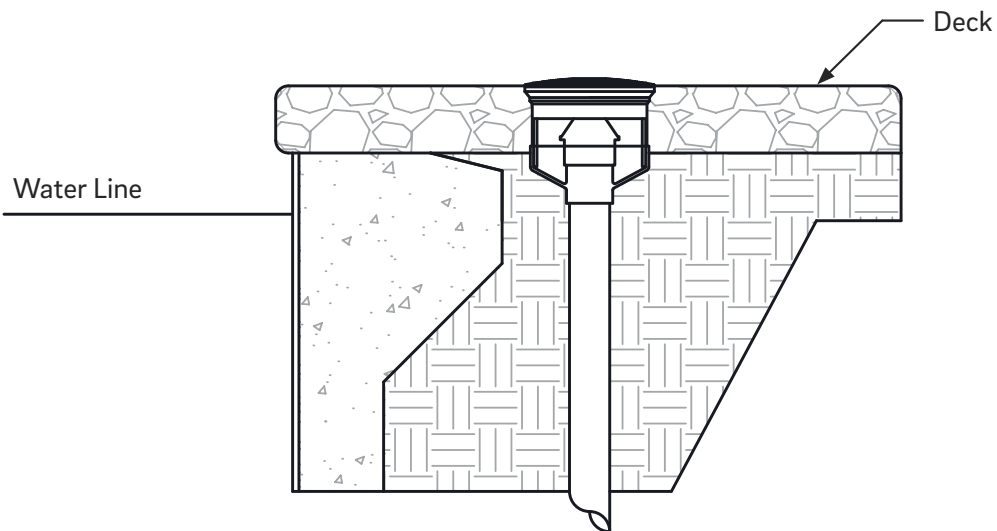

Figure 5
4. Once the deck is complete, the rubber cap can be placed over the muffler to shut-off air flow to the therapies. This will prevent cold air from cooling the heated water from the therapies (Figure 5).